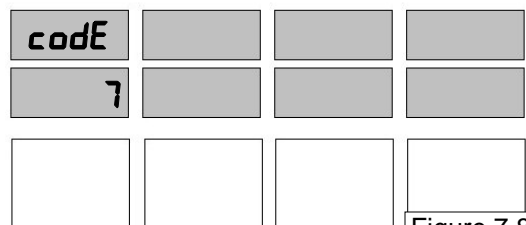

Figure 7.8
- When the correct option number appears in the main display, press the **ENTER** button to save the selection and Figure 7.8 appears.
If the dispenser has not been programmed since it came from the factory, the number 10 appears in the main display. This is the default setting. See Figure 7.8.